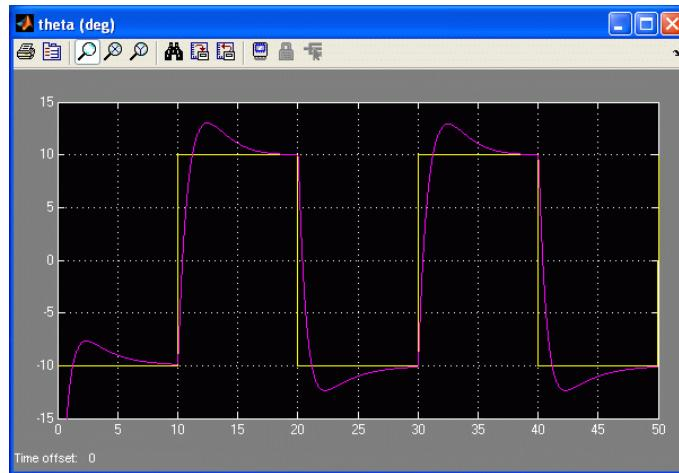
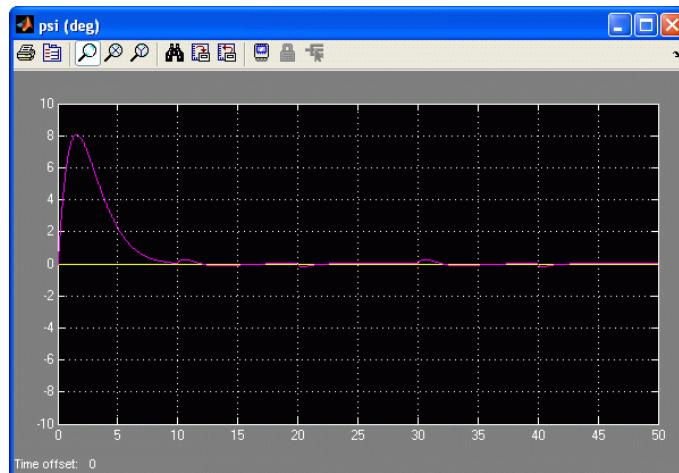
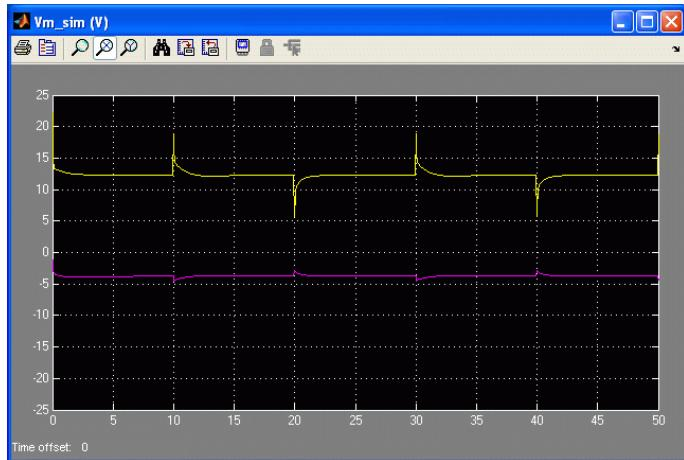

Figure 5.5: Simulated pitch response under pitch reference step using LQR+I
Figure 5.6: Simulated yaw response under pitch reference step using LQR+I
Figure 5.7: Simulated front and back motor voltage under pitch reference step using LQR+I
10. Ensure the pitch scope, *theta (deg)*, the yaw scope, *psi (deg)*, and the motor input voltage scope, *Vm_sim* (V), are open. If not, go into the *Scopes* subsystem and double-click on those sinks.
12. Click on the *Start* simulation button, or on the *Start* item in the *Simulation* menu, to run the closed-loop system using LQR+I and the scopes should read as shown in Figure 5.5, Figure 5.6, and Figure 5.7. In each scope, the simulated pitch and yaw angles (purple trace) should track the corresponding desired position signals (yellow trace). Also, examine the voltage in the *Vm_sim* (V) scope and ensure the front (yellow plot) and back motor (purple plot) are not saturated. Recall that the maximum peak voltage that can be delivered to the front motor by the VoltPaq amplifier is ± 24 V.